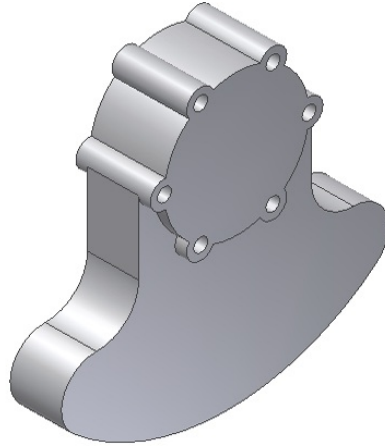

Figure 6-137 Model after creating the hole pattern
7. In the **Circular Pattern** dialog box, accept the default values and choose **OK** to exit this dialog box. The model after creating the hole pattern is shown in Figure 6-137.